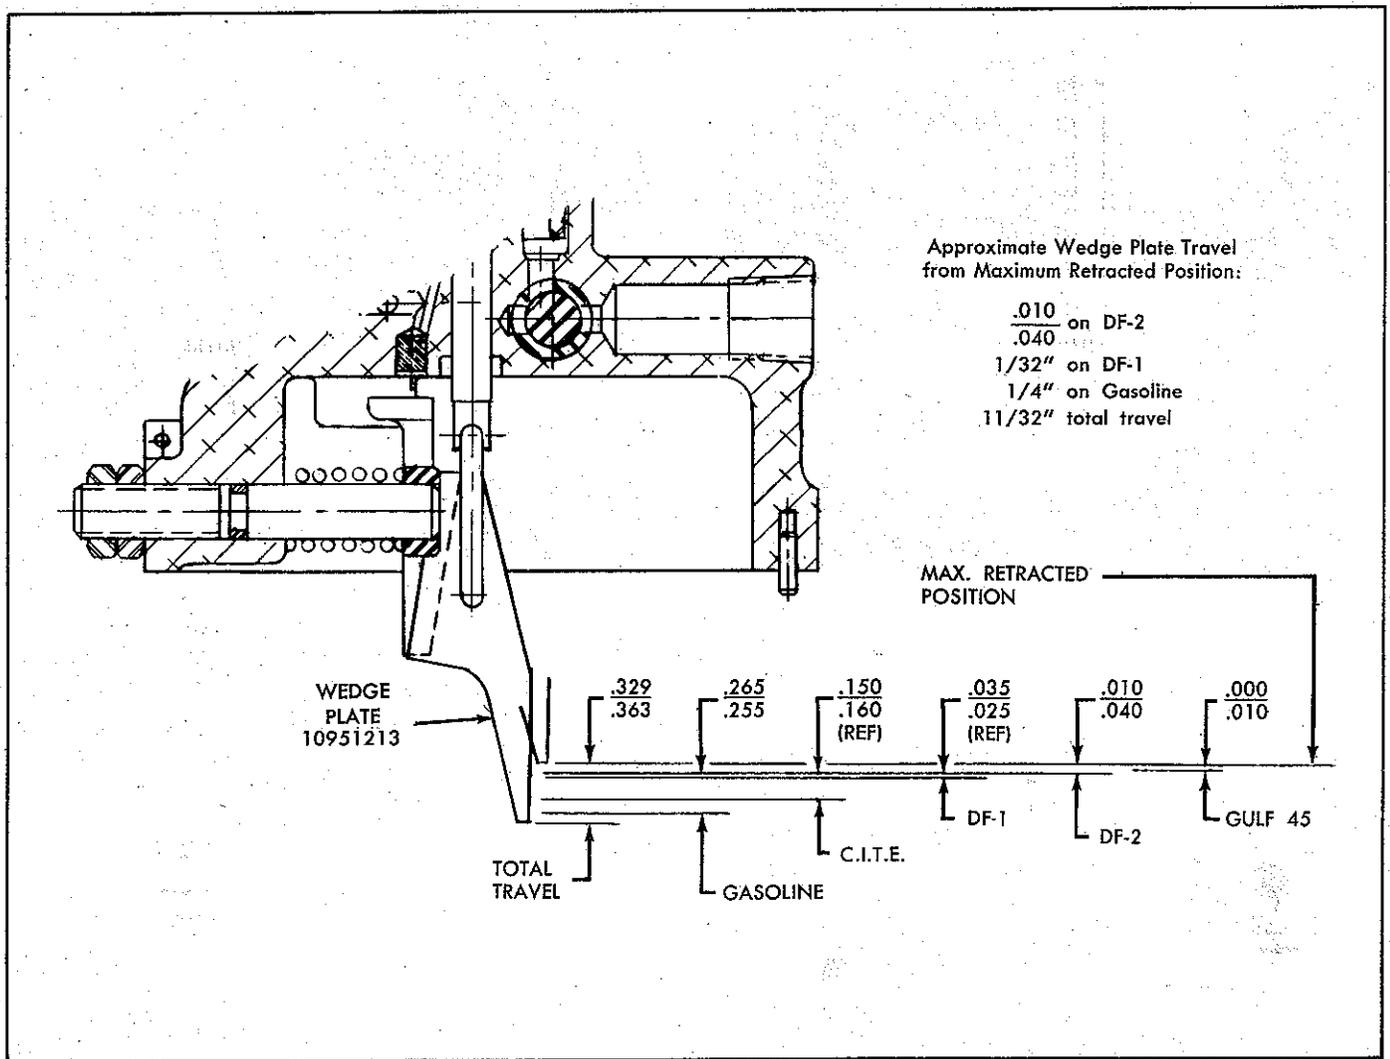

Figure 49
- (3) While holding the compensator in this position, start the engine and accelerate to approximately 1200 RPM.
- (4) When starting the engine the plate, Part No. 10951213 (Figure 49), should move from the maximum extended position to the operating range for the type of fuel being used.
- (5) While the engine is operating at 1200 RPM, push the plate upward to its maximum retracted position.
- (6) Release the plate, it should move downward to the operating position for the type of fuel being used.
- (7) Stop engine, the plate should move